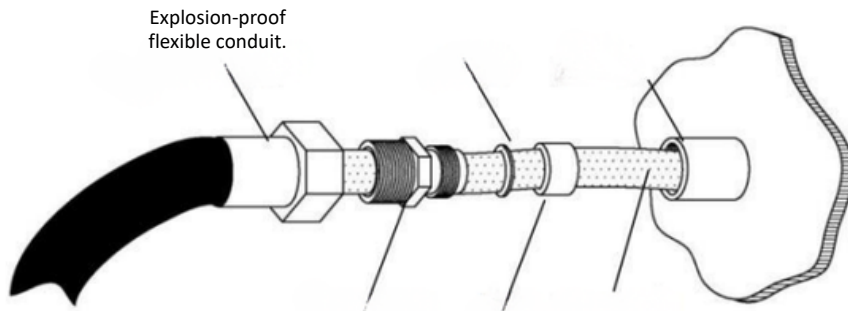

Figure 1
- As illustrated in Figure 1, ensure all components are properly placed on the conduit in advance. After removing the compression nut, keep the standard washer and rubber sealing ring (or use the supplied spare parts).